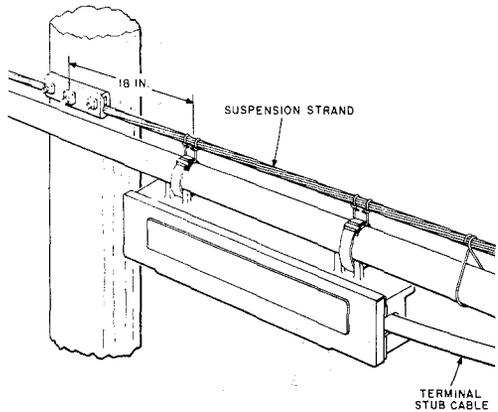
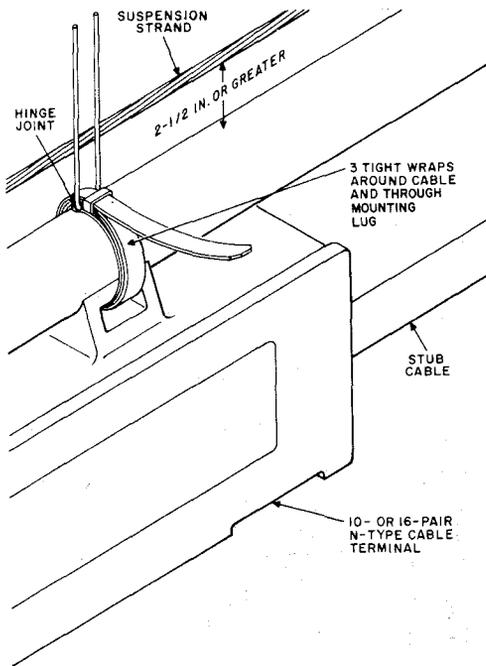

Fig. 16—Strand Mounted Terminal Installed On Ring Supported Cable—Cable/Strand Space Greater than 2 1/2-Inches
Fig. 15—Installing 10- or 16-Pair N-Type Cable Terminal On Ring-Supported Cable
3.07 If the space between the strand and the cable is greater than 2-1/2 inches, install the terminal using B lashed cable supports with wire hangers (Section 627-340-101) as shown in Fig. 15. Figure 16 shows completed installation.